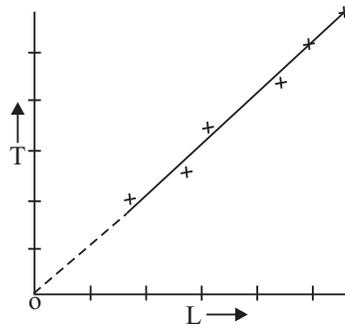

Fig. 4.4
- (vii) Repeat steps (3) to (6) making shorter lengths of the pendulum upto about 20 cm.
- (viii) For each length calculate  $T^2$  and plot a graph between  $T^2$  versus  $l$  (Fig 4.4) from this graph find the value of  $l$  for  $T^2 = 4 \text{ s}^2$